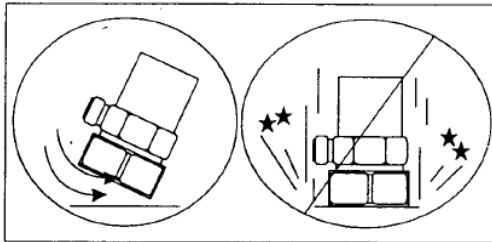

**Figure 9. Magnet Types**
**STEP 1:** After choosing the correct magnet type, inspect the unit, verifying that the mounting surfaces are flat and smooth. See Figure 9.